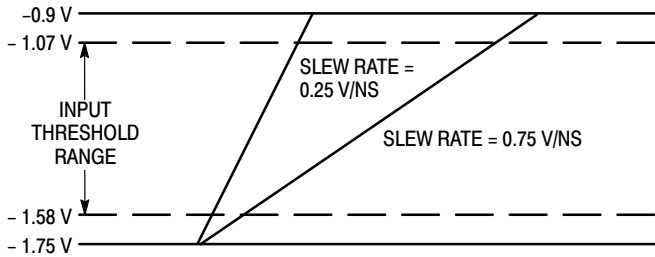
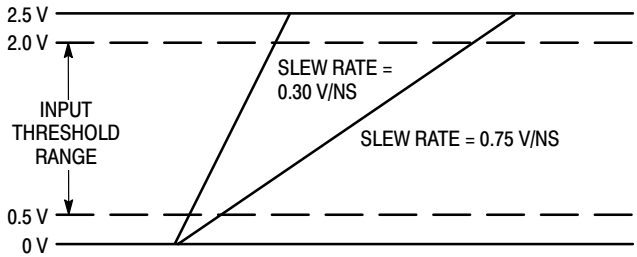

Figure 4. ECL Dispersion Test Input Conditions
Figure 5. TTL Dispersion Test Input Conditions
4. Refer to Figure 4 and note that the input is at 850 mV ECL levels with the input threshold range between the 20% and 80% points. The delay is measured from the crosspoint of the input signal and the threshold value to the crosspoint of the Q and \overline{Q} output signals.
7. Refer to Figure 5 and note that the input is at 2.5 V TTL levels with the input threshold range between the 20% and 80% points. The delay is measured from the crosspoint of the input signal and the threshold value to the crosspoint of the Q and \overline{Q} output signals.
Figure 4. and Figure 5. define a range of input conditions which incorporate varying input slew rates and input voltage overdrive. For input parameters that adhere to these constraints the propagation delay can be described as: